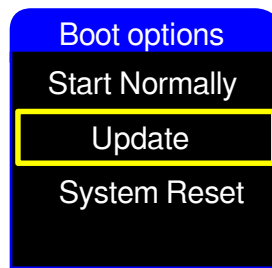

Figure 36: Special NESIS update mode options.
3. Once a window similar to Figure 36 opens, select the Update and push the knob.
Wait until the window similar to window shown on Figure 36 appears.